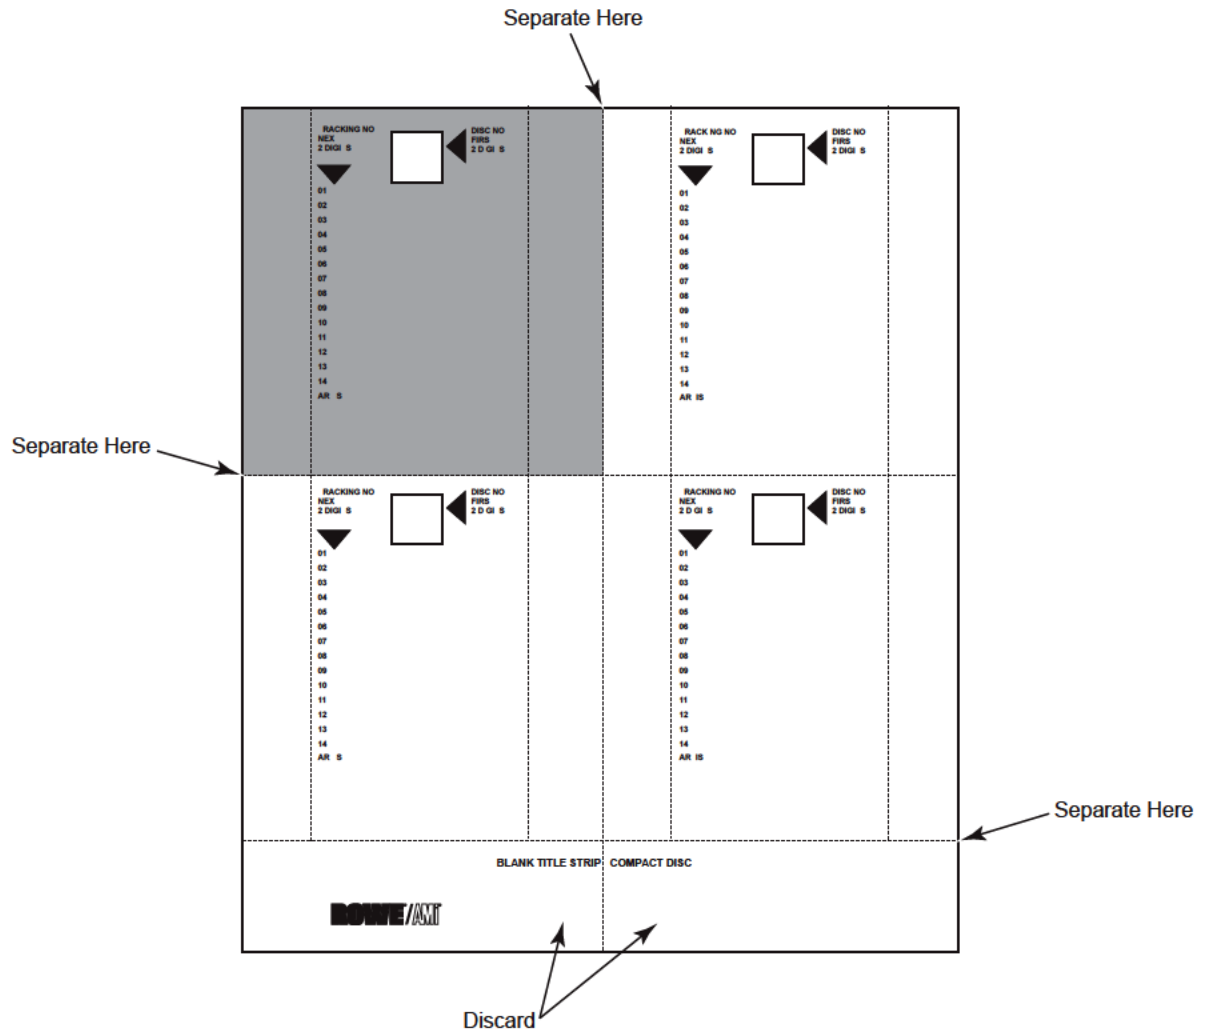

Figure 2-1. Blank Title Sheet
Refer to the sample in *Figure 2-1* for an illustration of where to tear the title strips off the title strip sheets.
1. Tear each title strip from the title sheet so the perforated column appears on the side of the title strip. (The shaded portion of the title strip in *Figure 2-1* represents a title strip that has been removed from the title sheet).